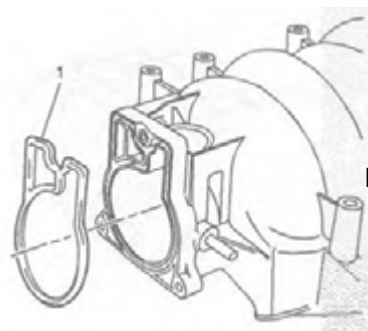

Fig.16
- Throttle body – remove (3) M6 (10mm hex) bolts and throttle body. Remove seal by carefully peeling out of the groove. Transfer seal to new manifold (fig.16). A new seal is available as FAST™ part number 54010 (78mm) or 54011 (90mm).